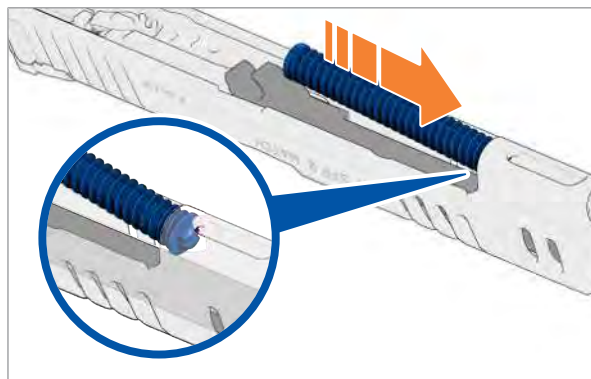

Fig. 64: Insert recoil spring
3. Insert recoil spring into slide (*Fig. 64*).